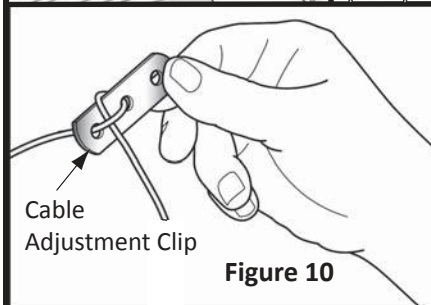

Figure 10
**Step 10:** Attach the Cable Adjustment Clip to the loose end of the Lifting Cable, exactly as shown in Figure 10.
**Step 7:** Your door will be supplied with (4 or 6) cables. The longer cables are the Lifting Cables and the shorter cables are the Safety Retention Cables. Install one of the Safety Retention (shorter) Cables as shown in Figure 10 (right side). For two springs, install two Safety Retention Cables.